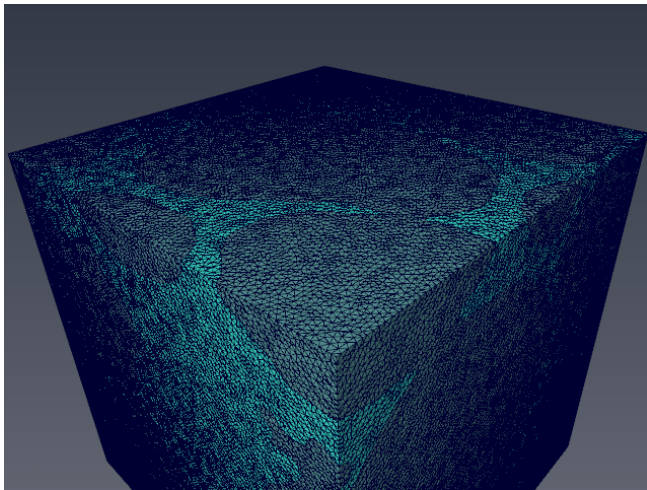

Figure 5.16: Simplified surface.
- Press *Simplify now* (see Figure 5.16).